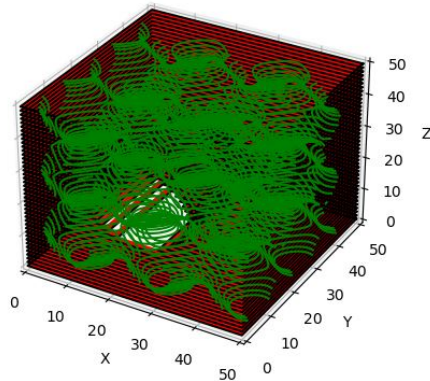
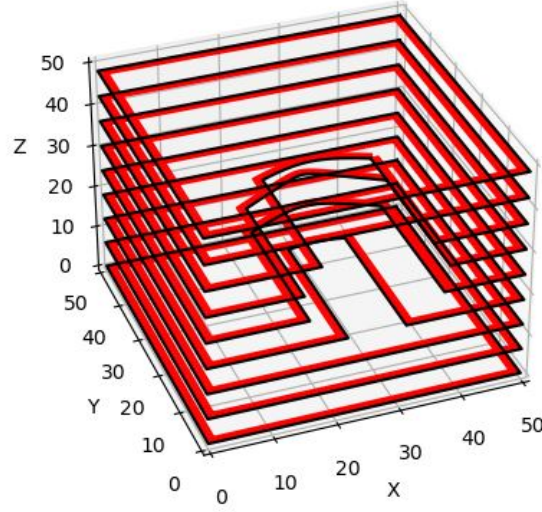
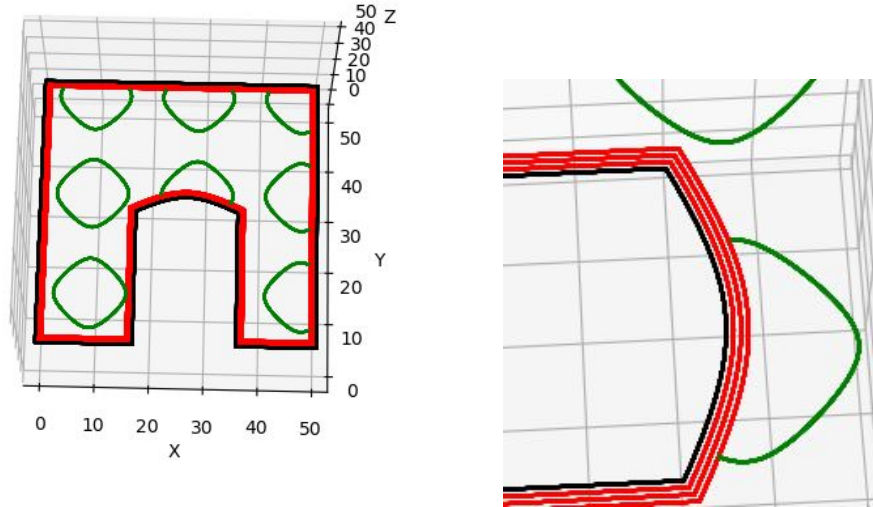

Figure 1: Basic Case Output (Render Resolution = 2)
Figure 2: Basic Case Rendering with Hidden Inline (Render Resolution = 10)
Figure 3: 55th Layer
- In Figure 1. black lines are the outer boundary, red lines are the shells and the green lines are the *TPMS* structures. In Figure 2. *TPMS* inlines are hidden for showing detailed boundary and shells. In Figure 3. 55th layer of the object is shown. It is clearly seen that there are 3 shells and *TPMS* structures start from most inner shell.